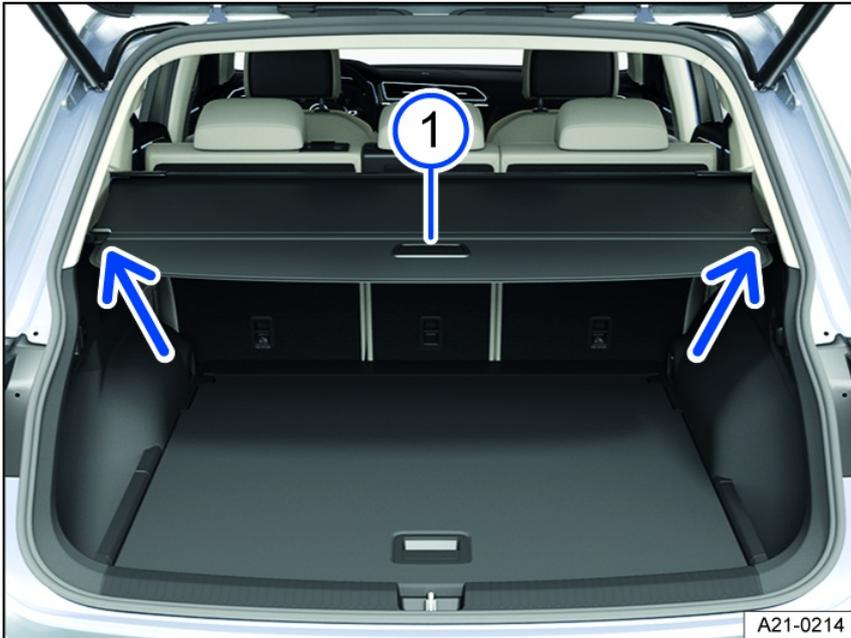

Fig. 162 In the luggage compartment: open the luggage compartment cover (general example).
1. Pull the luggage compartment cover out by the handle *fig. 162* ① and pull it upward out of the side retainers (arrows).
1. Pull the luggage compartment cover back by the handle *fig. 162* ① and attach it to the anchorage (arrow).